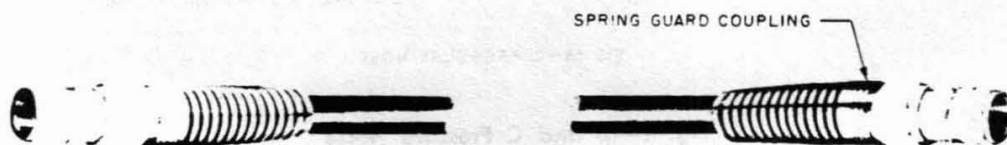

Fig. 2—D and E Pressure Hoses
2.05 The D pressure hose, illustrated in Fig. 2, is available in 6-, 8-, 12-1/2, and 25-foot lengths. It has a nominal inside and outside diameter of 3/16 inch and 7/16 inch, respectively.
2.09 The E pressure hose, illustrated in Fig. 2, is available in 10- and 30-foot lengths and has nominal inside and outside diameters of 1/4 and 5/8 inch, respectively.